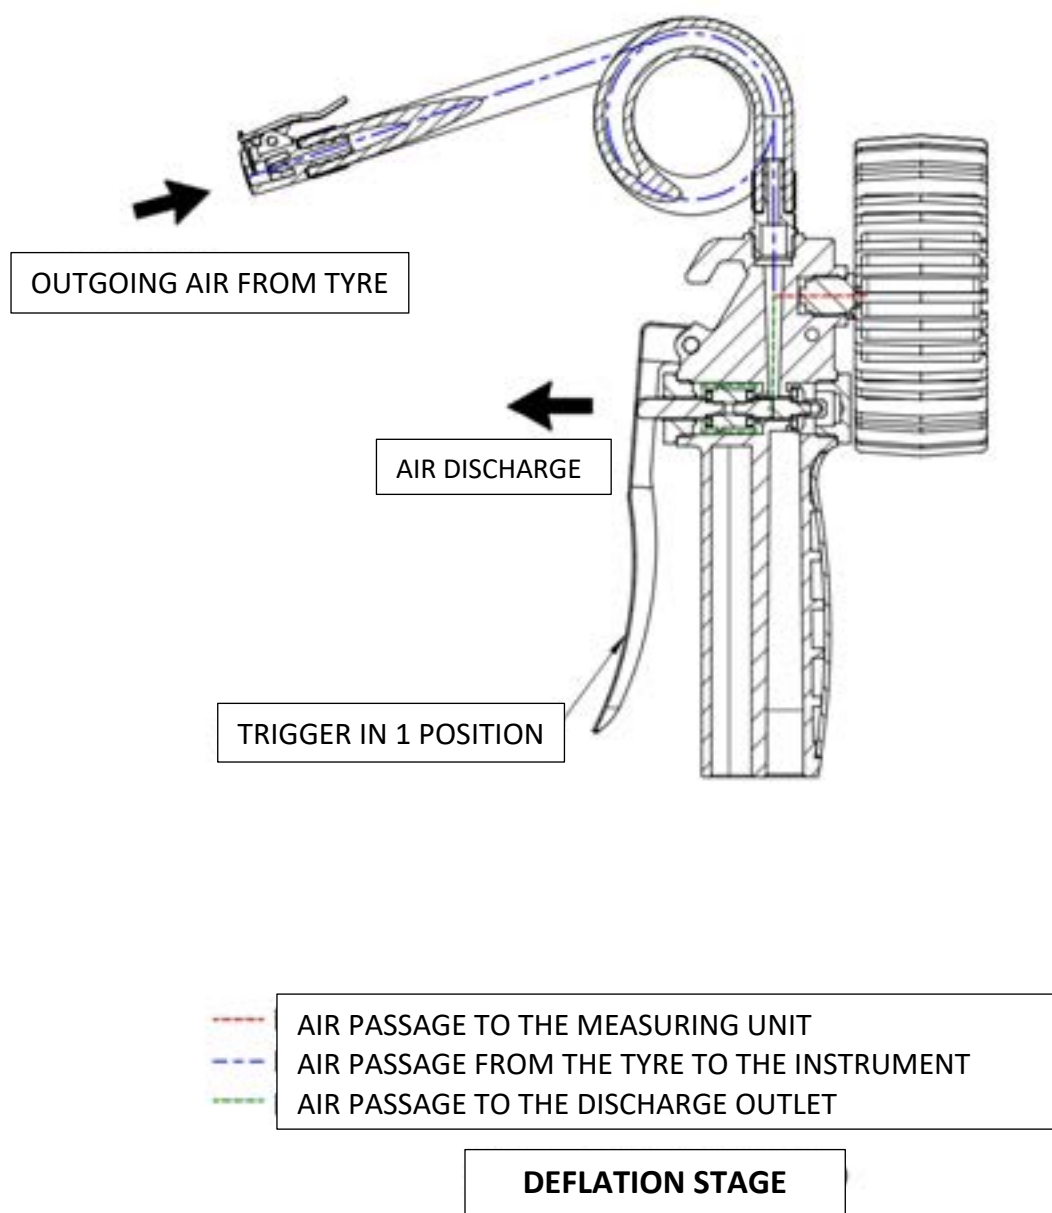

FIG. 13 – TYRE PRESSURE GAUGE “60 G/T” (vers. 80 mm)
- Tyre pressure deflation stage (Fig. 13)